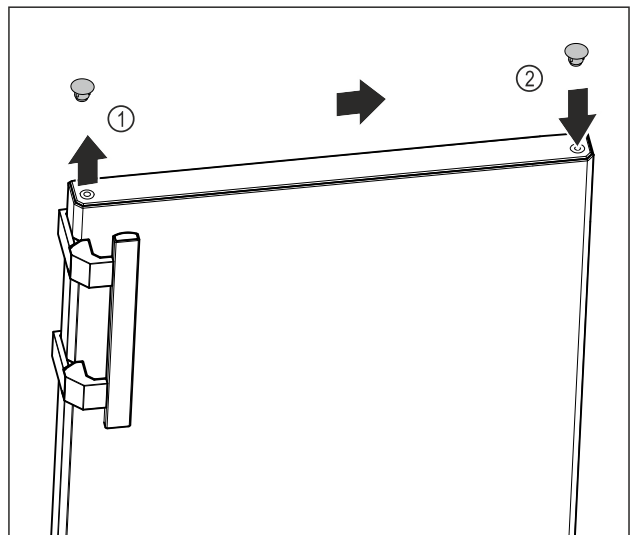

Fig. 9
- ▶ Carefully lift the cover plug on the top of the door *Fig. 9 (1)* with a slotted screwdriver.
- ▶ Insert the cover plug on the opposite side. *Fig. 9 (2)*